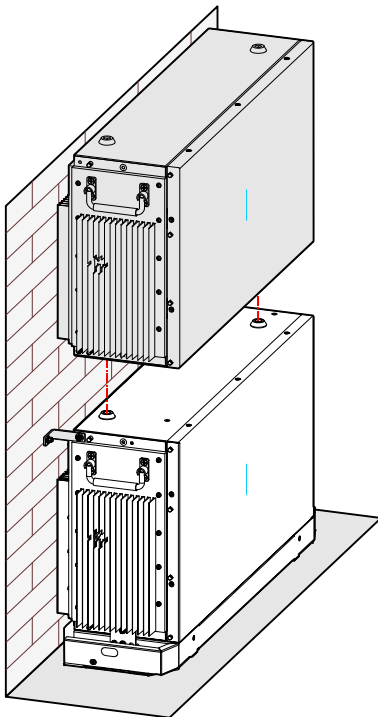

Figure3-25 Place the battery pack
3. Place the battery against the wall, the bottom limit holes of the upper battery pack should match the screw on the top of the below battery pack, as shown in Figure3-25.